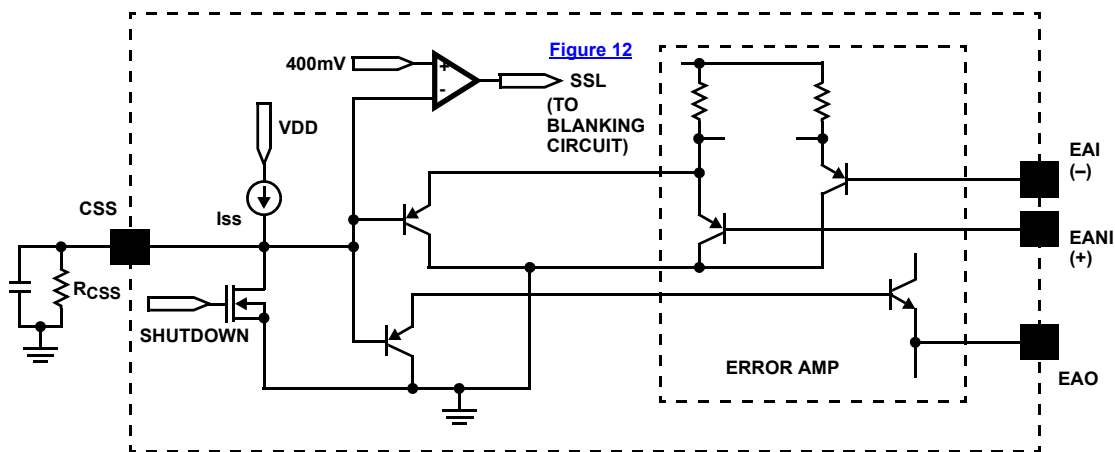

FIGURE 7. SIMPLIFIED CLAMP/SOFT-START
- Both EANI and EAO are clamped by the voltage (V_{clamp}) set at the CSS pin, as shown in Figure 7. Note that the diodes in the functional block diagram represent the clamp function of the CSS in a simplified way.
- The clamping voltage determines the cycle-by-cycle peak current limiting of the power supply. It should be set above the EANI and EAO voltages and can be programmed by an external resistor as shown in Figure 7 using Equation 3.
- In current mode control, the sensed switch (FET) current is processed in the Ramp Adjust and LEB circuits and then compared to a control signal (EAO voltage). Spikes, due to parasitic elements in the bridge circuit, would falsely trigger the comparator generating the PWM signal. To prevent false triggering, the leading edge of the sensed current signal is blanked out by a period that can be programmed with the R_LEB resistor. Internal switches gate the analog input to the PWM comparator, implementing the blanking function that eliminates response degrading delays, which would be caused if filtering of the current feedback was incorporated. The current ramp is blanked out during the resonant delay period because no switching occurs in the lower FETs. The leading edge blanking function will not be activated until the soft-start (CSS) reaches over 400mV, as illustrated in Figures 7 and 12. The leading edge blanking (LEB) function can be disabled by tying the R_LEB pin to VDD, i.e., LEB = 1. Never leave the pin floating.